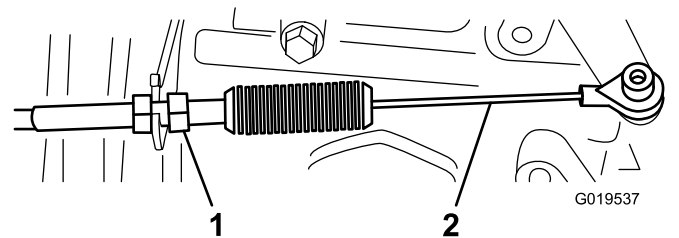
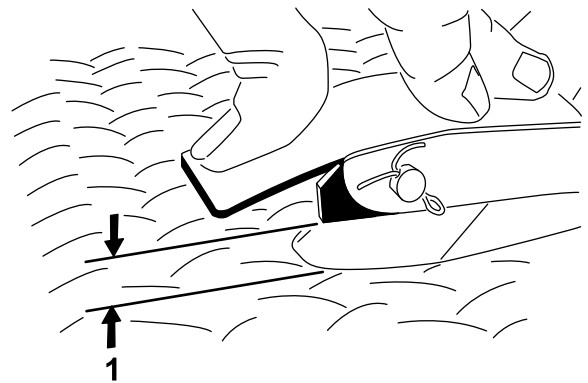

Figure 68
Figure 69
2. Adjust the ball joint on the accelerator cable (Figure 68) to allow 2.54 to 6.35 mm (0.100 to 0.250 inch) of clearance between the accelerator-pedal arm and the top of the diamond tread floor plate (Figure 69), when a 11.3 kg (25 lb) force is applied to the center of the pedal.
3. Tighten the locknut (Figure 68).